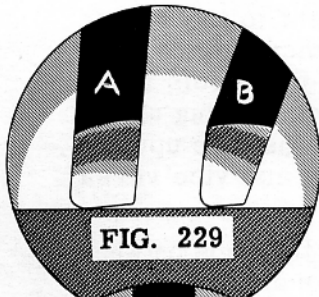

FIG. 229
Similar in shape to the tool for shaping horizontal surfaces is the roughing tool for down or vertical cutting (Fig. 229). The tool is ground to an angle of about 85° with a small radius on the nose. The side-cutting edge should be parallel with the side of the tool (A) or may be offset slightly (B) to give clearance for the tool holder.